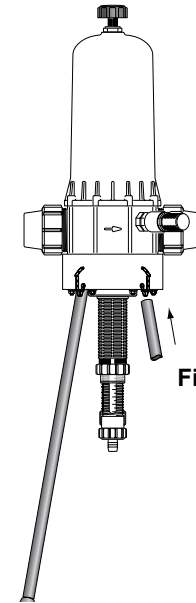

Fig. 1
- Insert the legs in the hoses (**Fig. 1**).